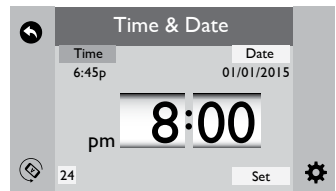

Figure 12.8c
1. Tap **Time** to program the time, Figure 12.8c.